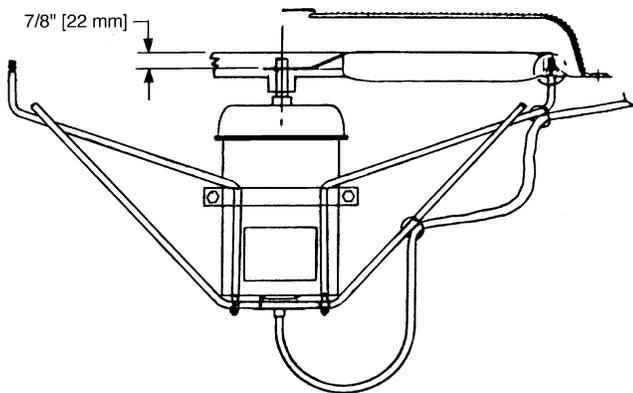

Fig. 53 — Condenser-Fan Adjustment
3. See Fig. 53 and adjust fan height using a straight edge laid across the fan deck.